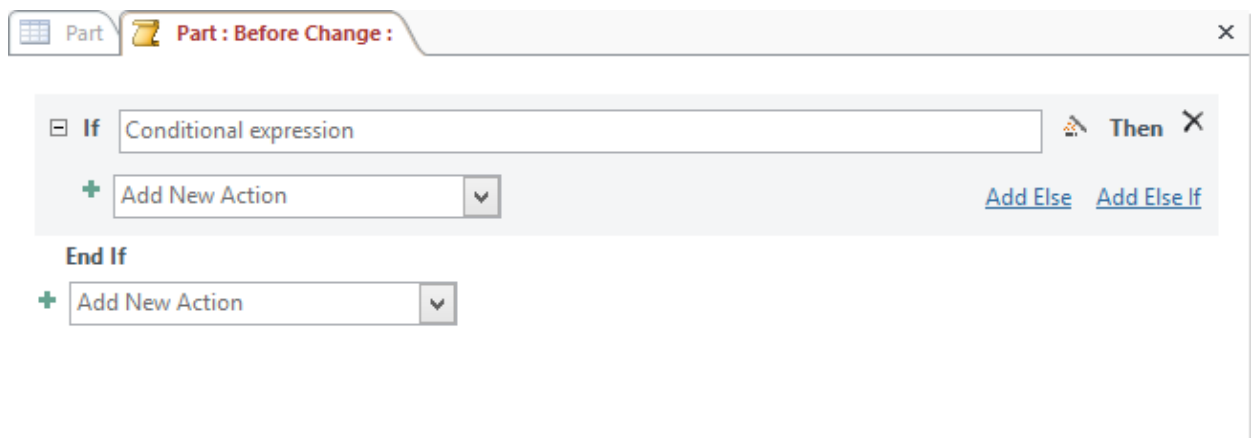

Figure 48: If Action Added to Macro Object Pane
3. Add an *If* Action: Double click on the *If* action in the Program Flow group of the Action catalog to add an *If* action to the macro object area. Alternatively, you can select the *If* action from the action list in the macro object pane. Figure 48 shows the macro object pane with the empty *If* action.